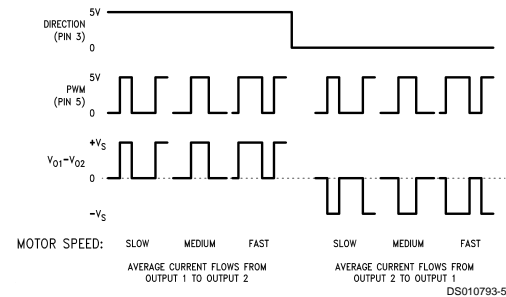

FIGURE 3. Sign/Magnitude PWM Control
**Sign/magnitude PWM** consists of separate direction (sign) and amplitude (magnitude) signals (see Figure 3). The (absolute) magnitude signal is duty-cycle modulated, and the absence of a pulse signal (a continuous logic low level) represents zero drive. Current delivered to the load is proportional to pulse width. For the LMD18201, the DIRECTION input (pin 3) is driven by the sign signal and the PWM input (pin 5) is driven by the magnitude signal.